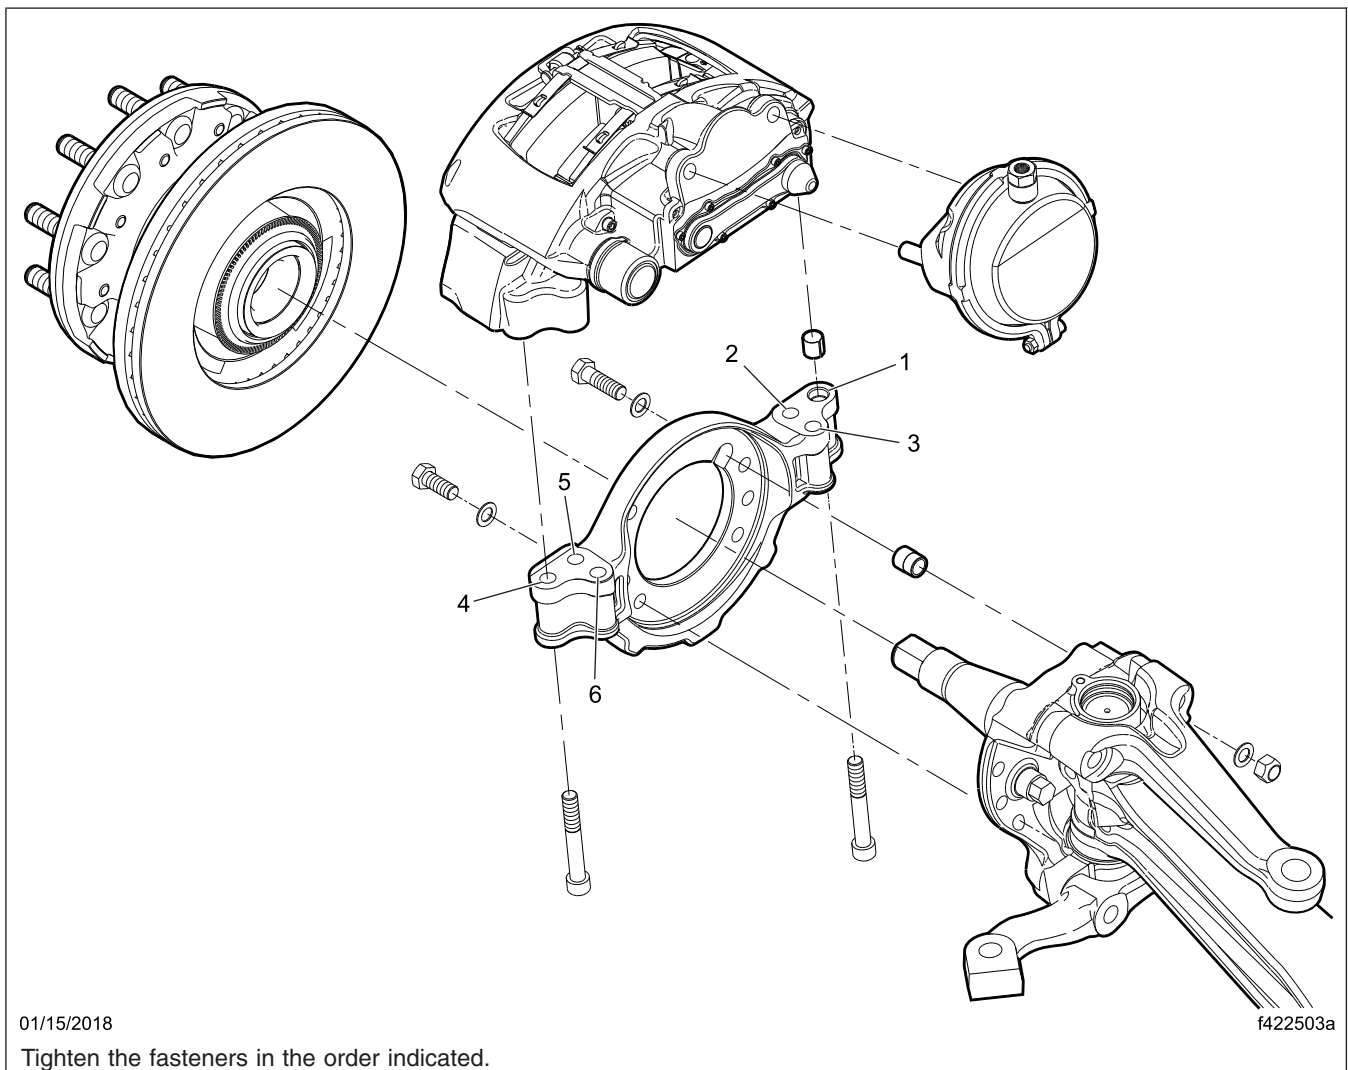

Fig. 2, Bendix Radial Mounted Caliper
6. Align each caliper/carrier assembly with the rotor by pushing the fixed pin side of the caliper against the shelf on the torque plate, then install the caliper/carrier assembly using new caliper mounting bolts. See Fig. 2.
7. Tighten the carrier mounting bolts in two steps, using the pattern shown in **Fig. 2**.